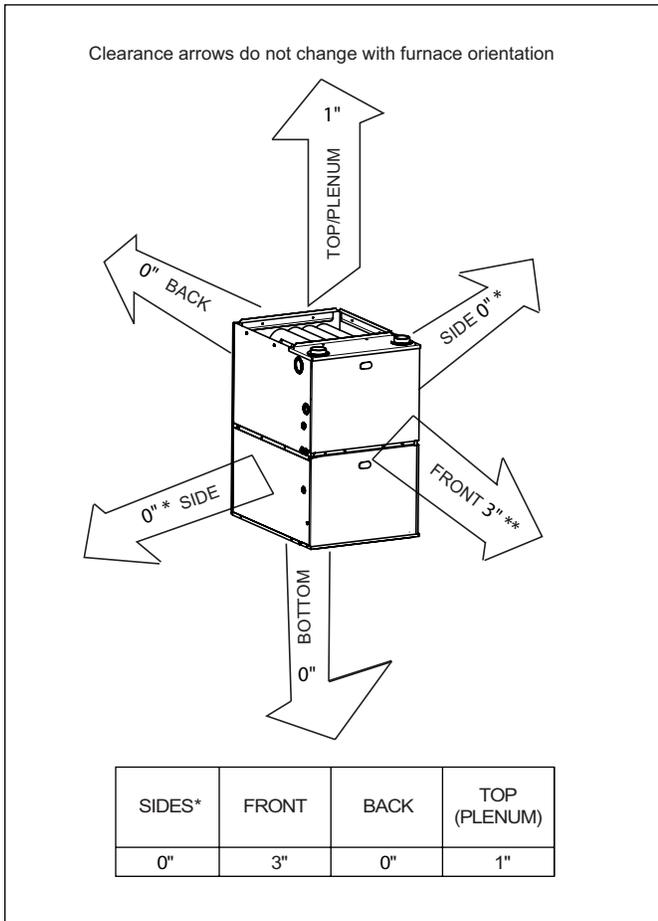

Figure 3 Minimum clearance from combustibles
See Section 3, Figure 3 for required clearances to combustible construction.
This furnace may be installed on combustible flooring in alcove or closet at minimum clearance as indicated by Figure 3.
- Not be installed directly on any combustible material other than wood flooring. Refer to Figure 3. for required clearances.
- Be provided ample space for servicing and cleaning. Always comply with minimum fire protection clearances shown on the furnace clearance to combustible label. Refer to Figure 3.